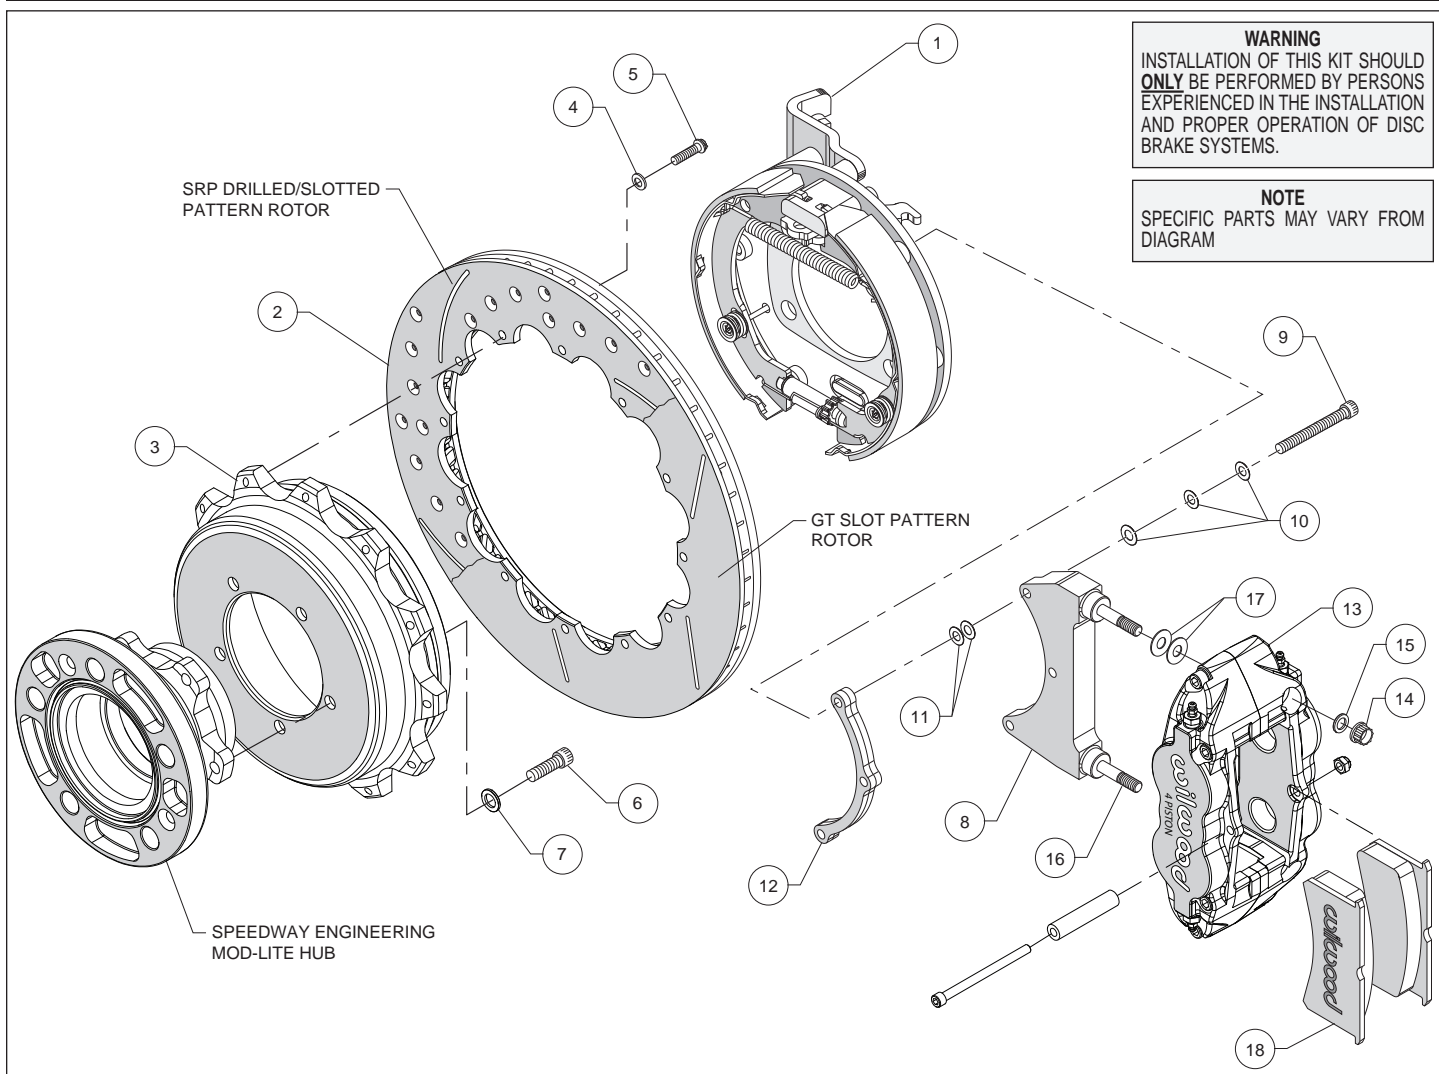
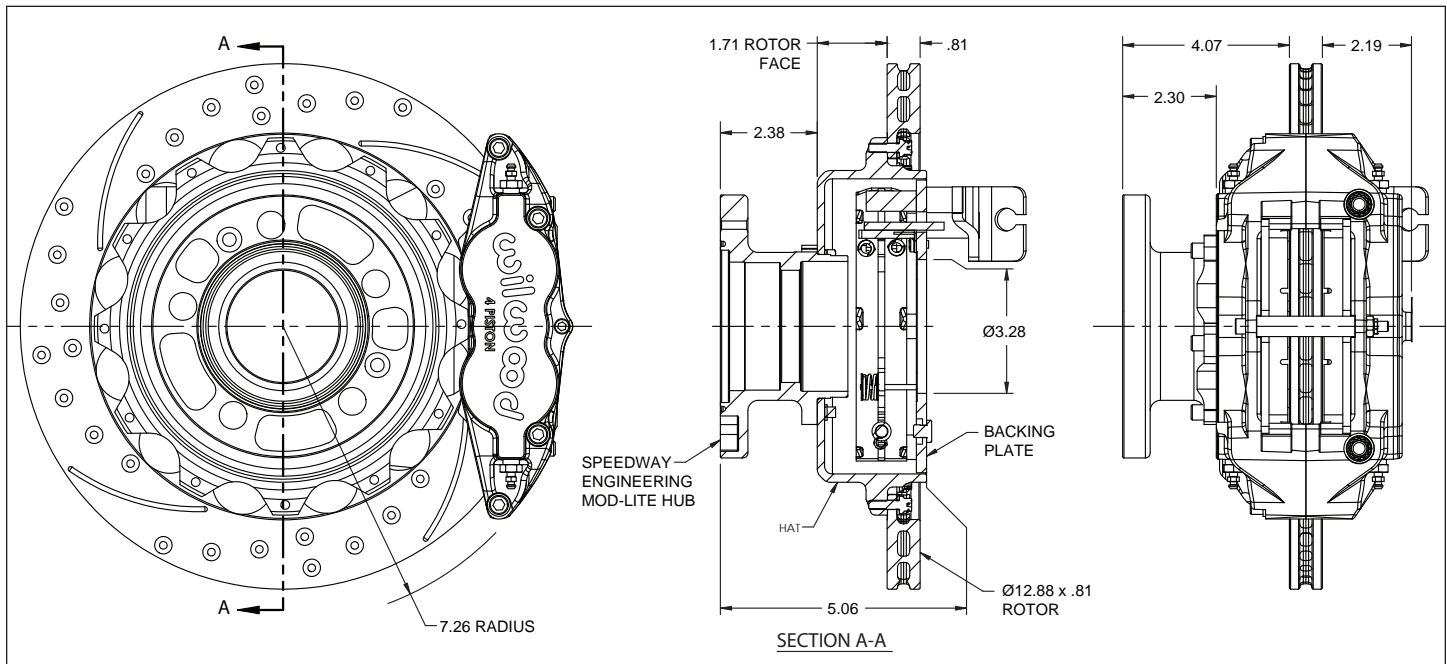
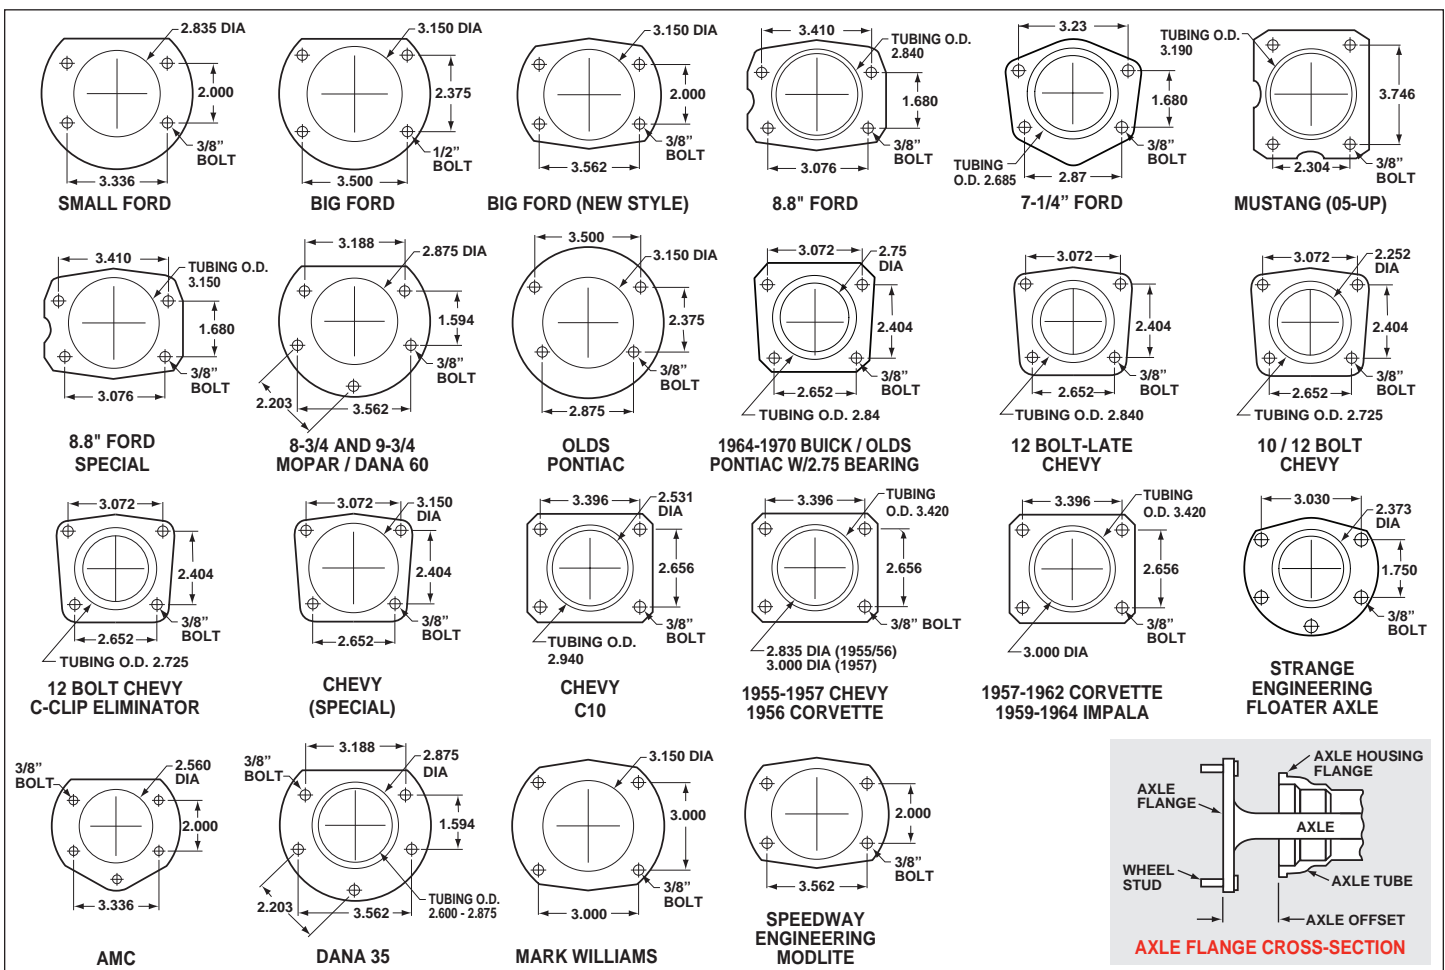

Figure 1. Typical Installation Configuration
Figure 2. Kit Mounting Dimensional Characteristics
Figure 4. Rear Housing Flange Chart and Axle Flange / Offset Cross-Section
• This kit requires a New Style Big Ford mounting flange (see Figure 4) on the axle housing at a distance of 5.06" offset from the face of the installed Speedway Engineering hub, Figure 2.
Assembly Instructions (numbers in parenthesis refer to the parts list, and Figure 1 on the preceding pages):
- Orient the bracket assembly (1) as shown in Figure 1 and secure to the axle housing using customer supplied bolts and nuts. Ensure that the bracket assembly backing plate fits flush against the axle housing flange.
- The caliper mounting bracket (8) should initially be installed with clean, dry threads on the mounting bolts (9). Orient the bracket as shown in Figure 1 and install using bolts (9), washers (10), shims (11) and spacer (12). Initially place two .015" shims (11) on each bolt between the bracket and the spacer. Temporarily tighten the mounting bolts. **NOTE:** End of bolt should not exceed inside face of insert. The bracket must tighten squarely against the back side of the bracket kit assembly (1). Later, after the caliper alignment has been checked, the mount bolts will be secured using red Loctite® 271.
- Orient the rotor (2) and the hat (3) as shown in Figure 1 and Photo 1. Attach rotor to hat using bolts (5) and washers (4). Using an alternating sequence, apply red *Loctite*® 271 to the threads and torque bolts to 155 **in-lb**. For an added measure of security, the bolts may be safety wired using standard 0.032 inch diameter stainless steel safety wire as shown in Figure 2. Refer to Wilwood's data sheet DS-386 (available at www.wilwood.com/Pdf/DataSheets/ds386.pdf) for complete safety wire installation instructions.
- Attach the rotor/hat assembly (2/3) to the hub (Speedway Engineering, customer supplied) using bolts (6) and washers (7) as shown in Figure 1. Apply red *Loctite*® 271 to the bolt threads and torque to hub manufacturer's specifications. Slide the rotor/hat/hub assembly into place on the axle housing.
- Lubricate the caliper mounting studs (16) with lightweight oil. Initially place two .035" thick shims (17) on each stud between the caliper and the bracket, as shown in Figure 1 and Photo 2. Mount the caliper (13) onto the bracket (8) using lock nuts (14) and washers (15), Figure 1. Temporarily tighten the lock nuts and view the rotor through the top opening of the caliper. The rotor should be centered in the caliper, Photo 3. If not, adjust by adding or subtracting shims (11) between the bracket and the spacer. Always use the same amount of shims on each of the two mounting bolts. Once the caliper alignment is correct, remove the bracket mounting bolts one at a time, apply red *Loctite*® 271 to the threads, and torque to 180 **in-lb**.
- Remove the caliper center bridge pad retainer bolt, nut, and tube from the caliper. Insert the brake pads (18) into the caliper, with the friction material facing the rotor, as shown in Photo 4. Check that the top of the brake pad is flush with the outside diameter of the rotor, Photo 5. If not, adjust by adding or subtracting shims (17) between the caliper and the bracket. After the caliper pad height is set, torque the caliper lock nuts (14) to 28 ft-lb. Secure the brake pads in place with the center bridge pad retainer tube, bolt, and locknut. The locknut should be snug without play in the bolt or tube. Be cautious not to over tighten.